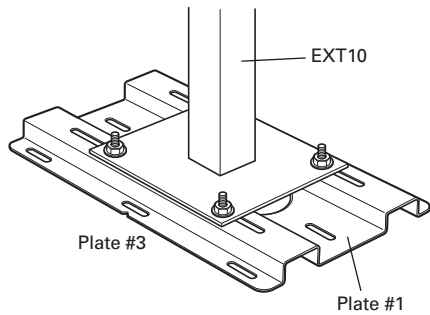

Figure 12
When the EXT10 Extension Pole will be used, attach the "Outside Pole" end to Plate #1 (instead of Plate #2) using four (4) 5/16-18 inch nuts and washers provided. Refer to Figure 12 on page 8.